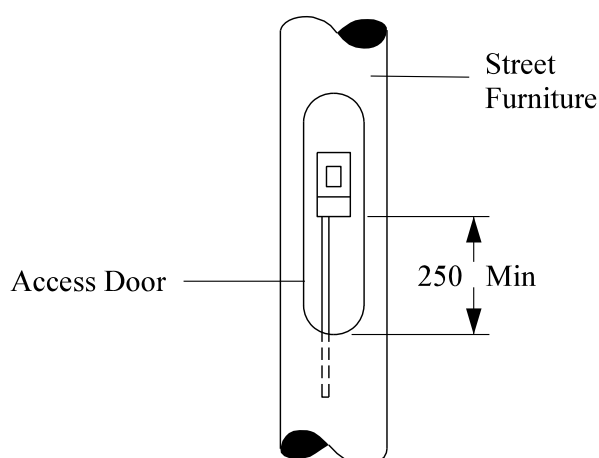

Fig 1
- 8.6. Check to see if there is at least 250mm of service cable between the bottom of the cut-out and the bottom of the access door - Fig 1. If it is considered safe to do so, unscrew the retaining screw/s.